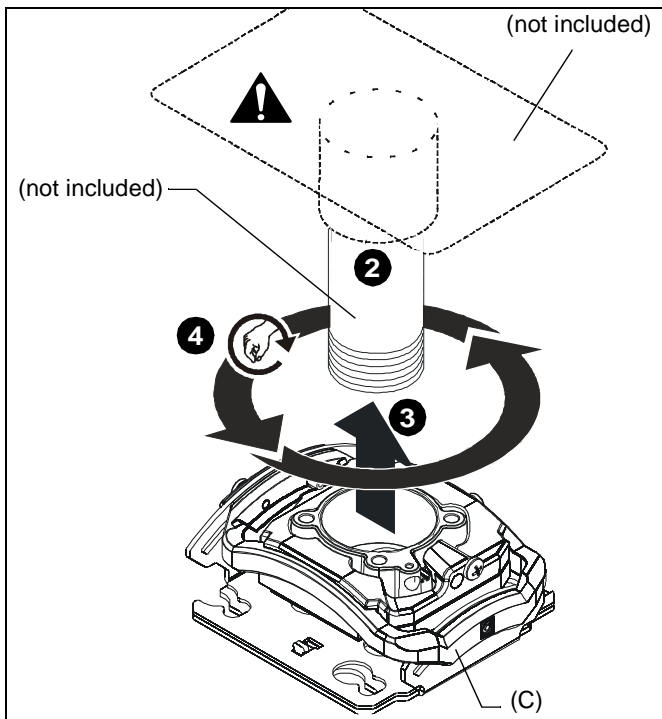

Figure 1
- Install 1-1/2" NPT or NPSM following ANSI/ASME B1.20.1 (Schedule 40, 0.154" minimum thickness steel or aluminum - ASTM B221) threaded extension column (not included) into threaded collar (not included) until tight, with a minimum of four threads engaged. (See Figure 1)
- Align projector mount (C) with end of NPT pipe.
- Thread projector mount up onto pipe by turning until hand tight. (See Figure 1)